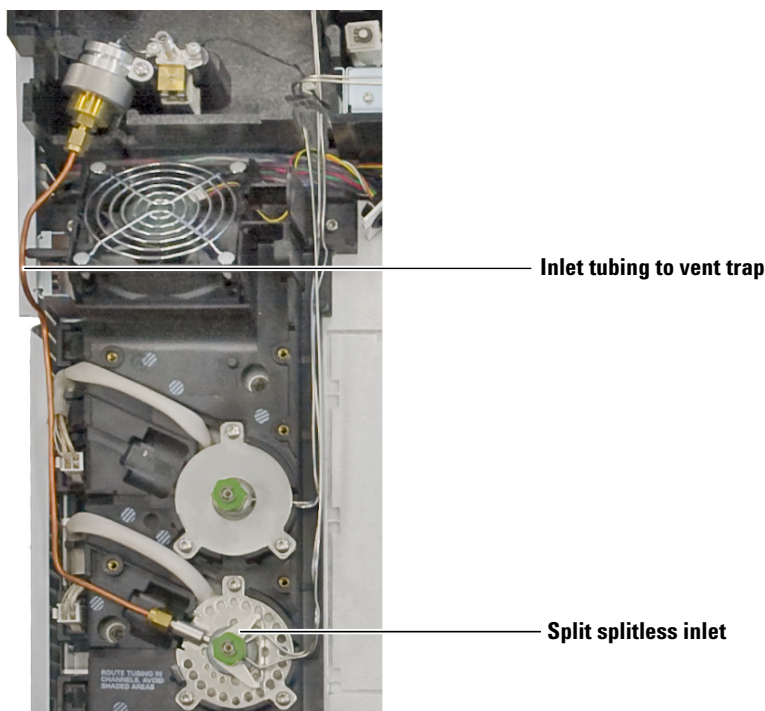

Figure 7 Routing the inlet tubing
- 1 Route the tubing from the inlet to the split vent trap as shown below, being careful that the tubing does not interfere with the left side cover placement. (See Figure 7.)